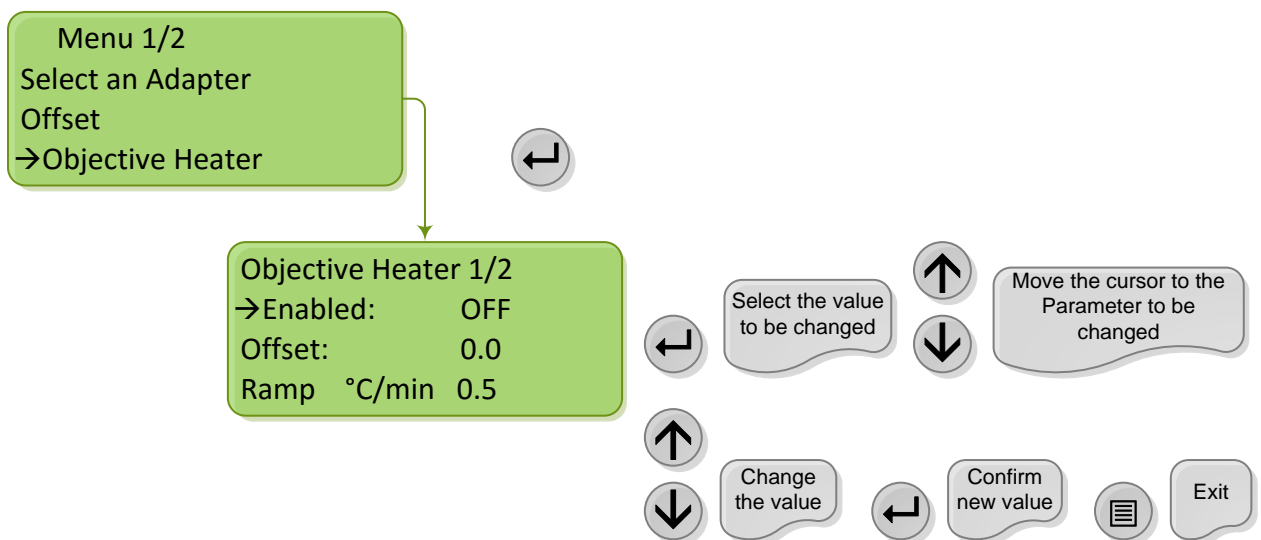
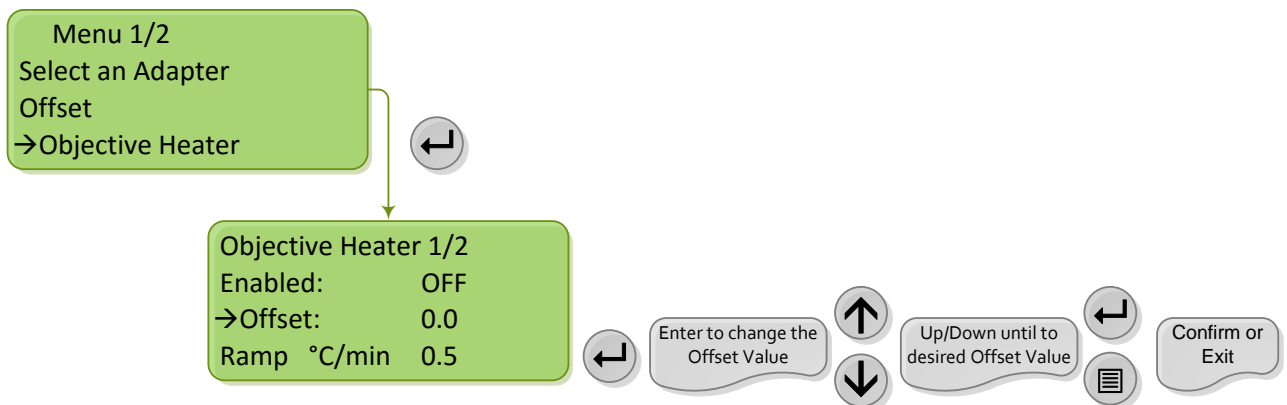

Figure 27. Objective Heater Settings Menu.
Figure 30. How to change the Objective Heater offset.
In this Submenu, the User can set a manual offset for Objective Heater as described in Figure 30 and following the procedure described in paragraph 14.
6. When the Fine Gauge Thermocouple reads a stable temperature open the ‘Objective Heater Submenu’ as shown in Figure 27 and select the ‘Offset’ item (See Figure 30) . Next click on “+” or “-” on the ‘Offset’ to adjust the Objective Heater offset value. Okolab recommends starting with an offset value corresponding to the difference between the set point temperature and the actual temperature measured by the Fine Gauge Thermocouple. Press ‘Enter’ and wait until the temperature measured by the Fine Gauge Thermocouple is stable. If the temperature measured by the Fine Gauge Thermocouple is now close to the set point, then the Manual Calibration is complete. If the temperature measured by the Fine Gauge Thermocouple is far from the set point, repeat the steps above until the temperature measured by the Fine Gauge Thermocouple reaches the set point temperature.